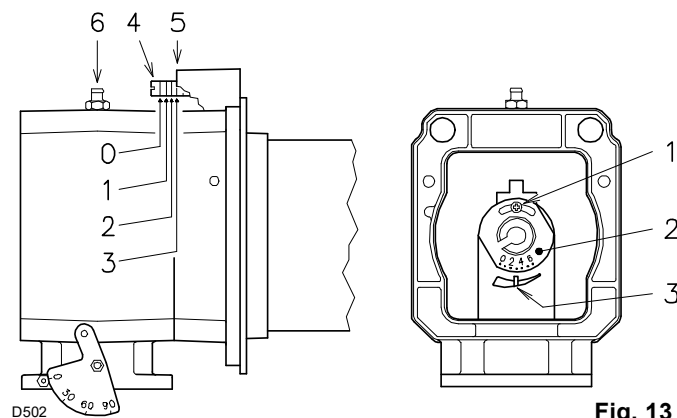
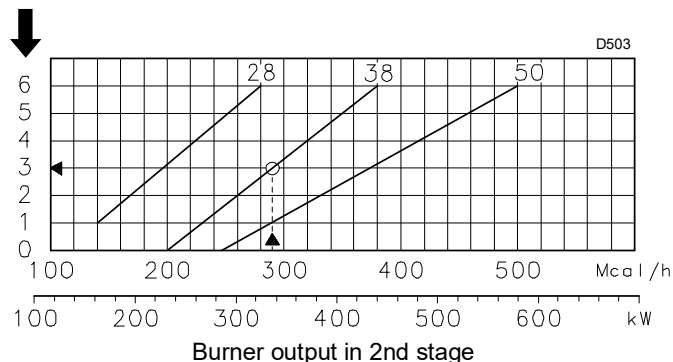

Fig. 13
Fig. 14
In the diagram of Fig. 14, find the notch at which both air and central gas/air should be adjusted.
- Turn the screw 4)(Fig. 13) until the notch found lines up with the front surface 5) of the flange.
To facilitate the adjustment, loosen the screw 6)(Fig. 13), adjust, then block.
- Loosen the screws 1)(Fig. 13) and rotate the ring nut 2) until the notch you have found corresponds with the indicator 3).
The diagram (Fig. 14) shows that the gas and air adjustments for this output are carried out on notch 3.
Gas ring nut 2)(Fig. 13 on page 17) adjusted as per diagram (Fig. 14 on page 17).